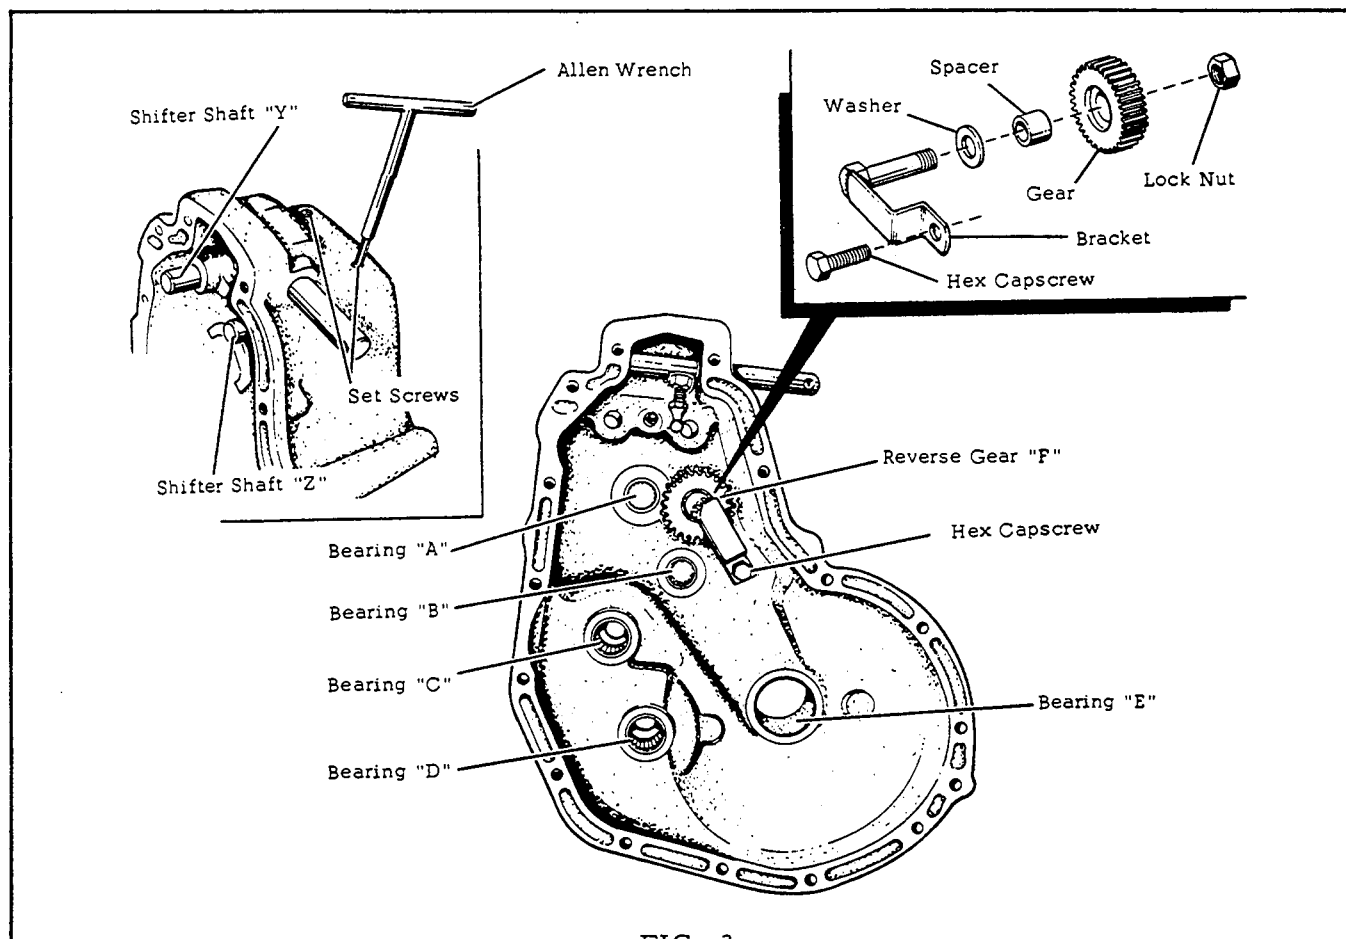

FIG. 3
3. Assemble the shifter fork assembly with the longer shaft into the "Y" shaft hole of the transmission. Take care to be sure that the setscrew, which holds the shaft in place, is actually locked into the setscrew hole of the shifter shaft. Now assemble the shorter shaft into the "Z" shaft hole of the transmission and lock in place in same manner as other shifter fork assembly. See Fig. 3.
4. Assemble the reverse gear "F" as shown in Fig. 3. When properly assembled, insert the gear assembly into the transmission case and position the bracket over the mounting hole in the case. See Fig. 3. Fasten the bracket to the case with a hex capscrew and tighten to 20 ft. lbs. $\begin{smallmatrix} +0 \\ -3 \end{smallmatrix}$ lbs.
6. Place a greased flat washer over face of bearing "A" in transmission case. See Fig. 3 & 4. To install shaft "A" and gears, first move the "Y" shift fork into Neutral (See dis-assembly instructions) and move the "Z" fork into raised position (see dis-assembly instructions). Raise the gear cluster on shaft "B" slightly and move shaft "A" toward the shift forks. When you slide the shift rings on the gear assemblies into position against the shift forks, it should be possible to lower shaft "A" into place in its bearing.